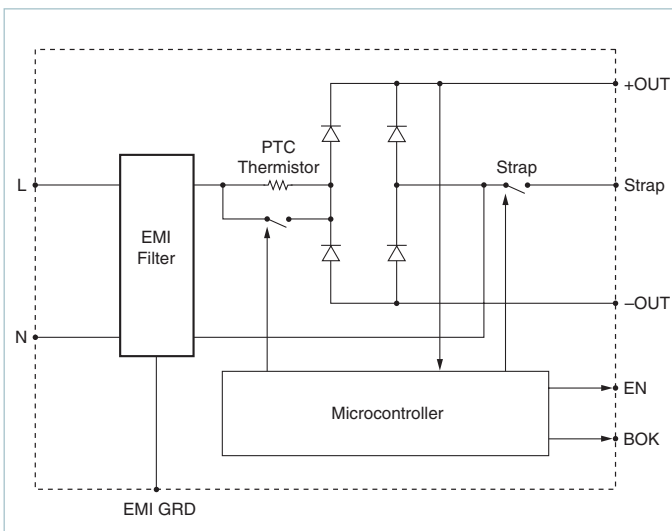

Figure 7 — Functional block diagram: autoranging rectifier
**Initial Conditions:** The switch that bypasses the inrush limiting PTC (positive temperature coefficient) thermistor is open when power is applied, as is the switch that engages the strap for voltage doubling. (See Figure 7). In addition, the converter modules are disabled via the Enable (EN) line, and BusOK (BOK) is high.